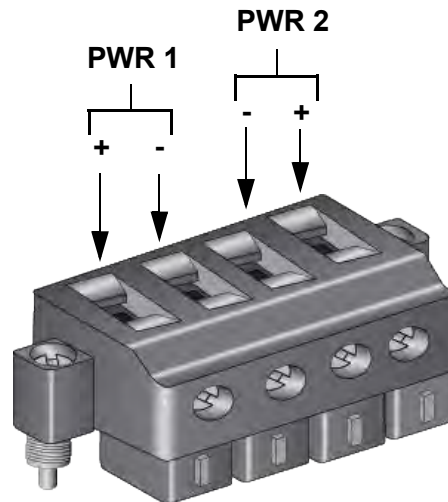

Figure 64. Loosening the Wire Retaining Screws on the POWER Plug
5. Use a #1 screwdriver to loosen the wire retaining screws of the PWR 1 and PWR 2 pins. If you are powering the switch with only one DC power supply, you may use either the PWR 1 or PWR 2 pins. Refer to Figure 64.